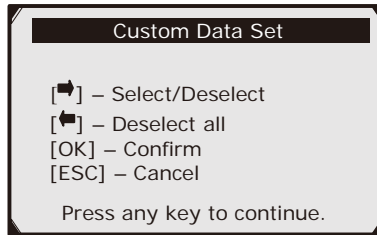

Figure 5.16
2. Observe on-screen instructions. (**See Figure 5.16**). Press the **OK** button to continue; press the **ESC** button, or use **Left/Right** button to select **NO** and press the **OK** button to return to **Record Data** menu.